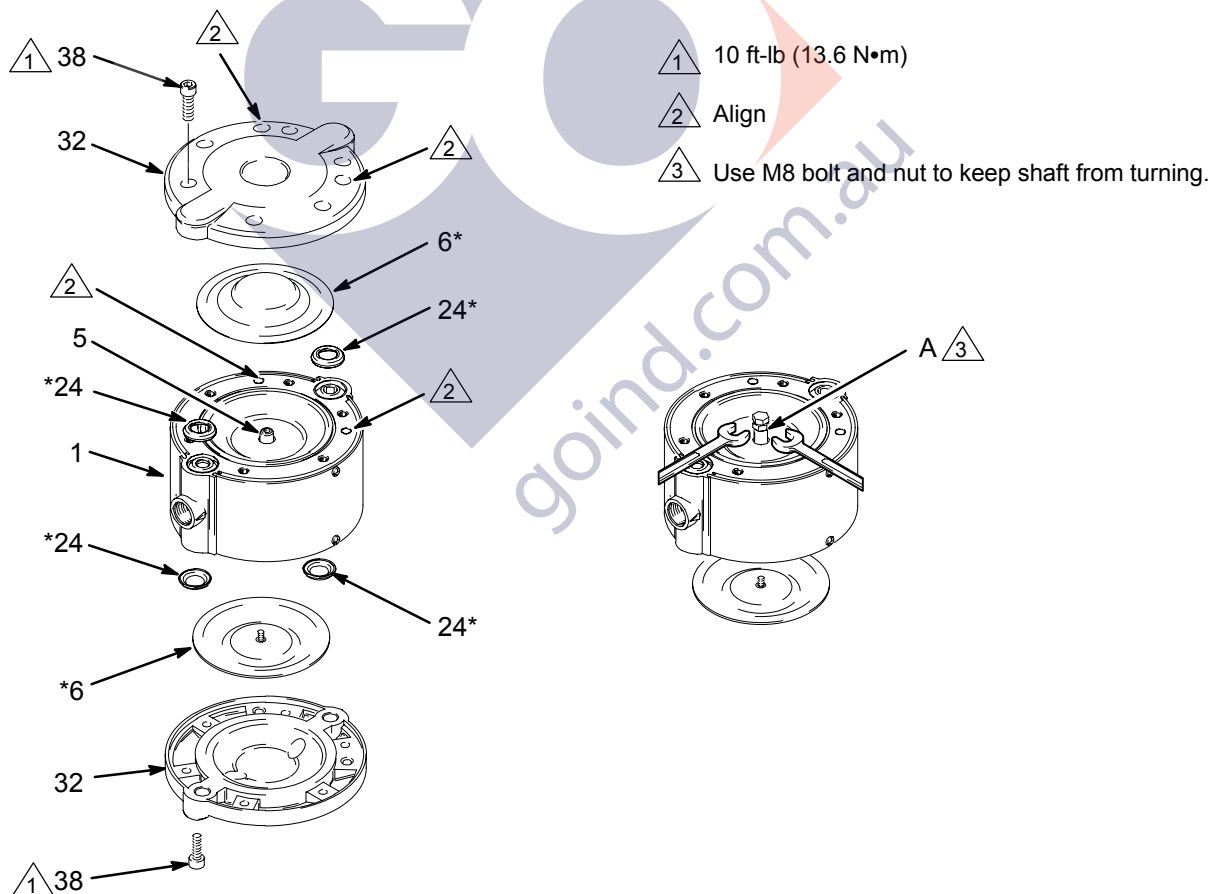

Fig. 5
2. Unscrew one diaphragm (6) from the shaft (5) by hand. See Fig. 5.
3. Thread an M8 hexnut (A) onto an M8 bolt. Screw the bolt into the shaft (5) until it bottoms out. Thread the nut down to the shaft to lock it.
4. Hold the nut with a wrench or vise to keep the shaft from turning. Unscrew the other diaphragm (6) by hand.